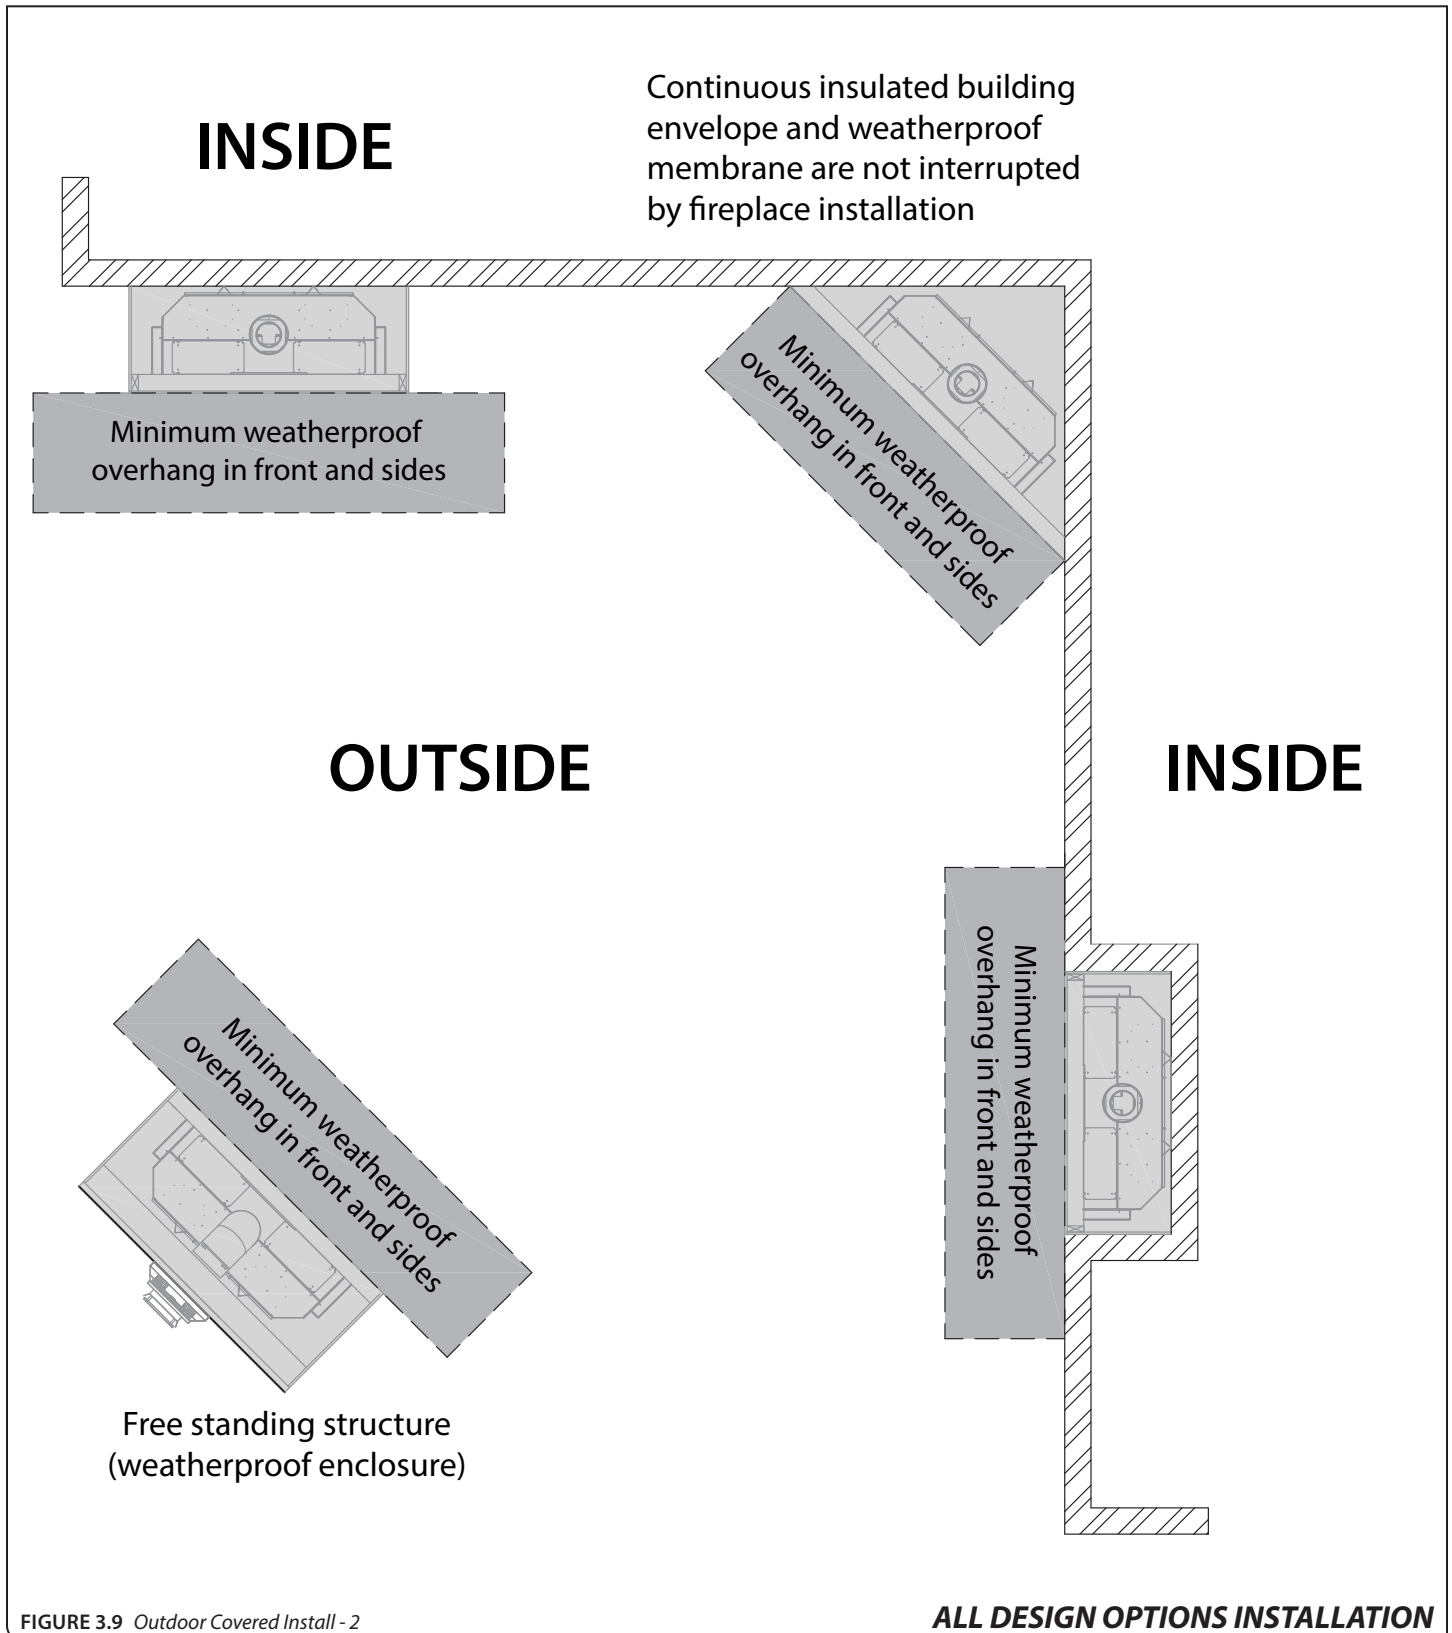

FIGURE 3.9 Outdoor Covered Install - 2
- The continuous insulated building envelope and weatherproof membrane are not to be interrupted by fireplace installation. See **FIGURE 3.9** on the following page.